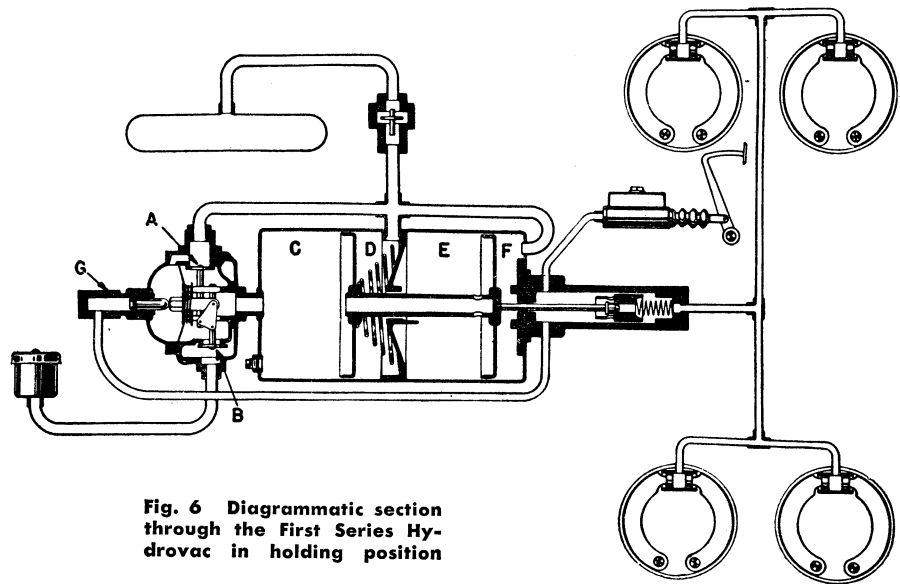

Fig. 6 Diagrammatic section through the First Series Hydrovac in holding position
pedal is held partially applied and physical pressure is constant, the master cylinder line pressure at point (G), Fig. 6, remains constant. As air is admitted into the valve compartment below the diaphragm, the diaphragm is forced against the piston until valves (A) and (B) are brought into holding position. The diaphragm, therefore, exerts a reactionary force against piston which is exactly proportional to the degree of brake application.